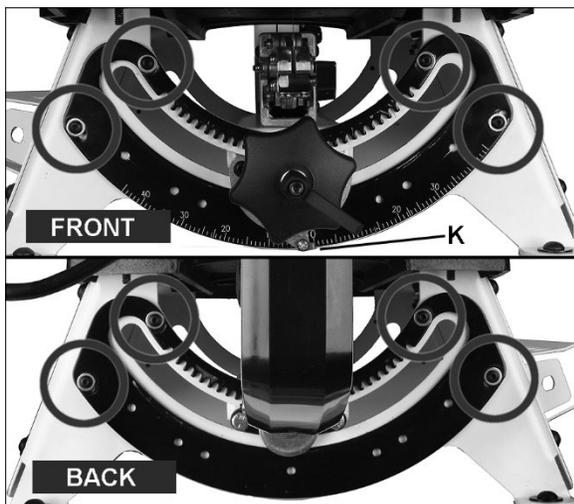

Figure 9-9: squaring blade to table
6. If blade is still not perpendicular, loosen eight screws on trunnion plates, at front and back of saw (Figure 9-9).
9. If needed, loosen screw on pointer (K) and adjust it to zero. Tighten screw.